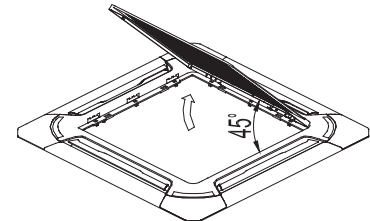

Fig.21
2. Draw the grill up to an angle of about 45°, and remove it. (Fig.21)